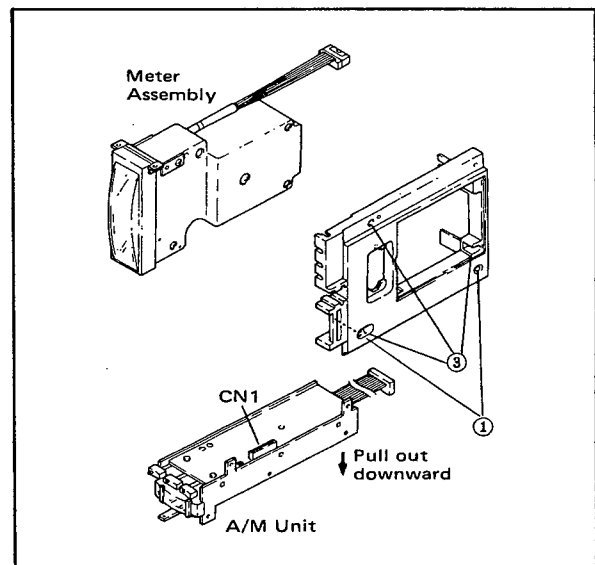
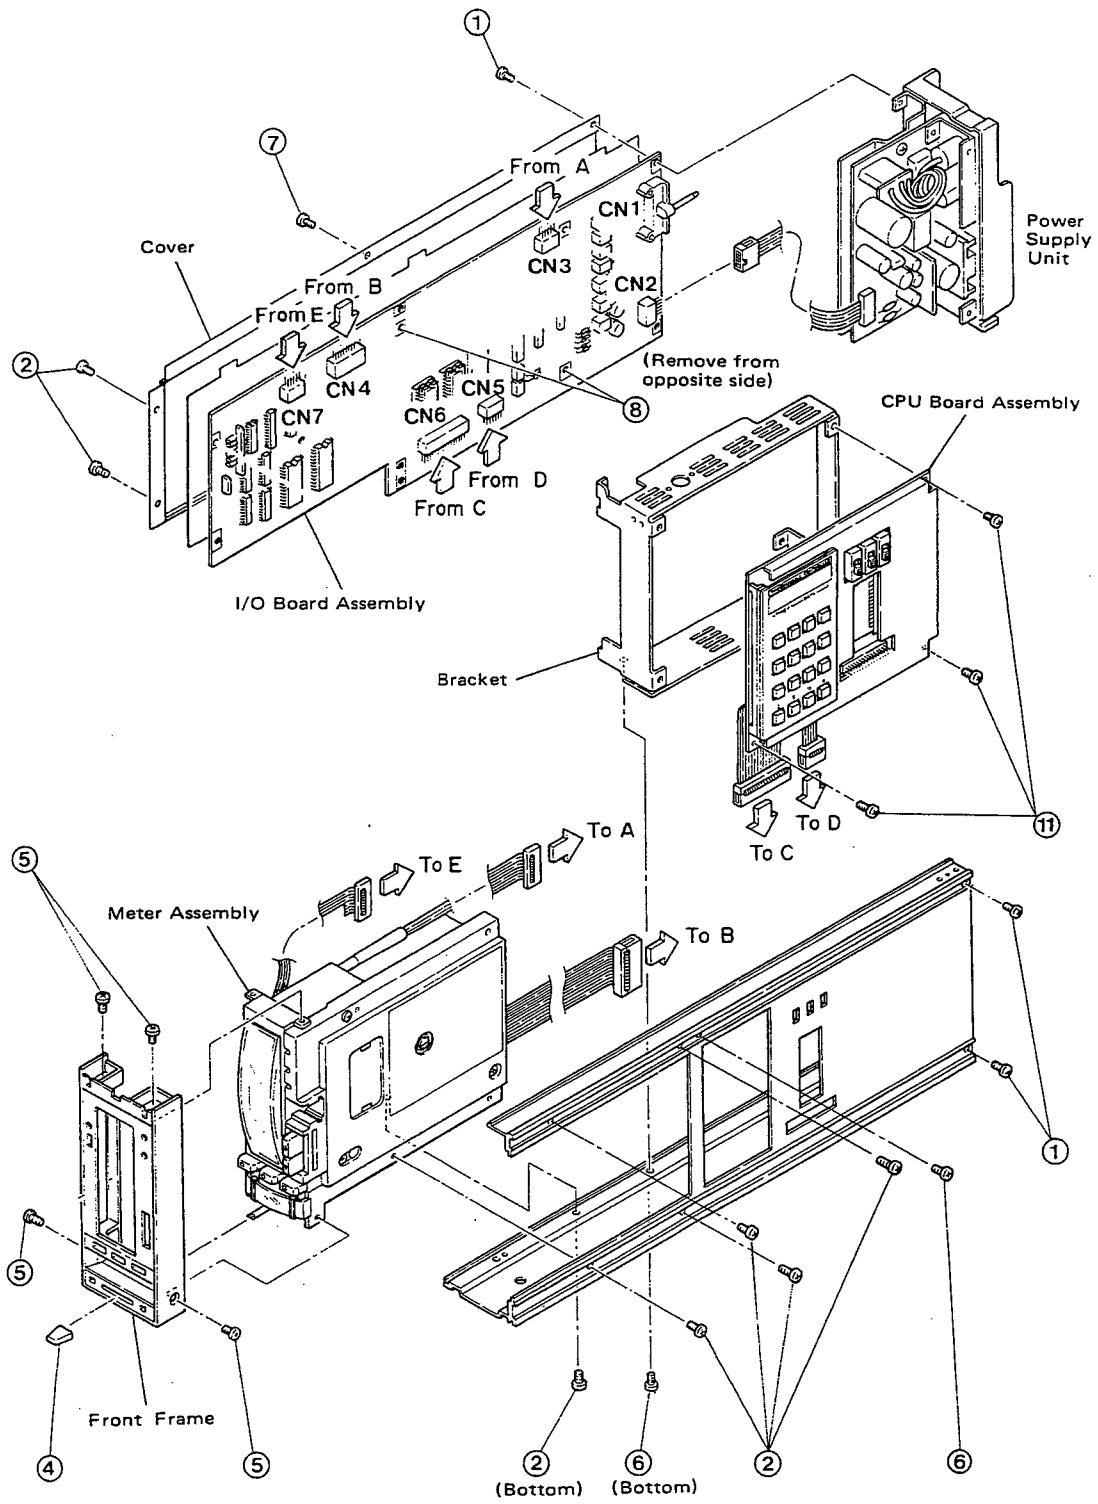

Figure 7-2-2. Disassembling Display Unit.
Figure 7-2-3. Disassembling Main Unit.
- (1) Remove seven screws ② in Figure 7-2-3.
- (2) Remove connectors 3 (CN3, CN4 and CN7).
- (3) Carefully pull the meter assembly out toward the front.
- (1) Extract knob ④ in Figure 7-2-3.
- (2) Remove four screws ⑤ to separate the front frame.
- (3) Pull the A/M unit out downward after removing two screws ① in Figure 7-2-2.
- (4) To separate the meter assembly, remove three screws ③ from the molded section. (The meter assembly in the fluorescent bar graph version can be separated in the same manner.)
- (1) Remove four screws ① in Figure 7-2-3.
- (2) To separate the power supply unit, pull it out toward the rear and remove connector CN2.
- (1) Remove the meter assembly and the power supply unit as instructed in Sections 7-2-1 and 7-2-3.
- (2) Separate the I/O board assembly from the chassis by removing two screws ⑥ in Figure 7-2-3.
- (3) Remove two screws ⑦ and open the cover to expose screw ⑧ (on opposite side in the figure).
- (4) Remove two screws ⑧ from the opposite side to open the tuning panel (CPU board assembly).
- (5) Pull out the connectors CN5 and CN6 downward to separate the tuning panel (CPU board assembly).
- (6) To release the tuning panel from the bracket, remove three screws ⑩.